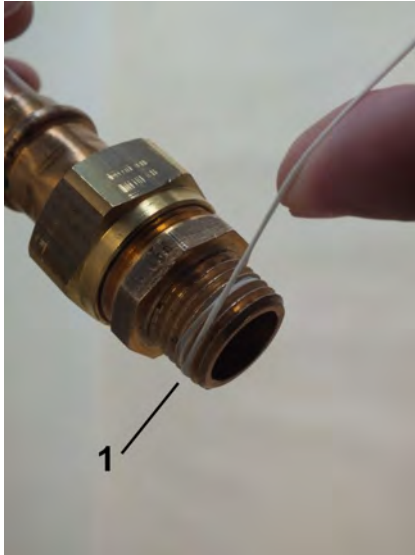

Fig. 9: Apply sealing thread
2. ➔ Apply sealing thread (Fig. 9/1) to the napped area in the threaded direction. Observe the quantity recommended by the sealant manufacturer